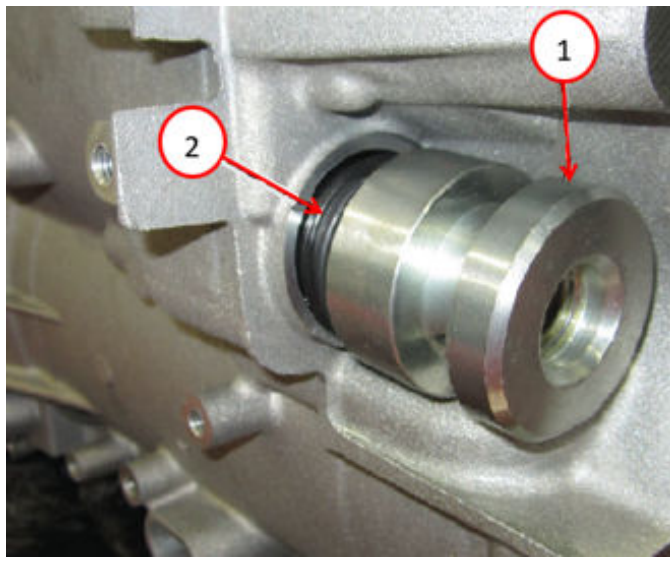

Fig. 10
18. Using Guide Sleeve 10377, carefully pull the electrical harness insulator straight out from the transmission case Fig. 10.